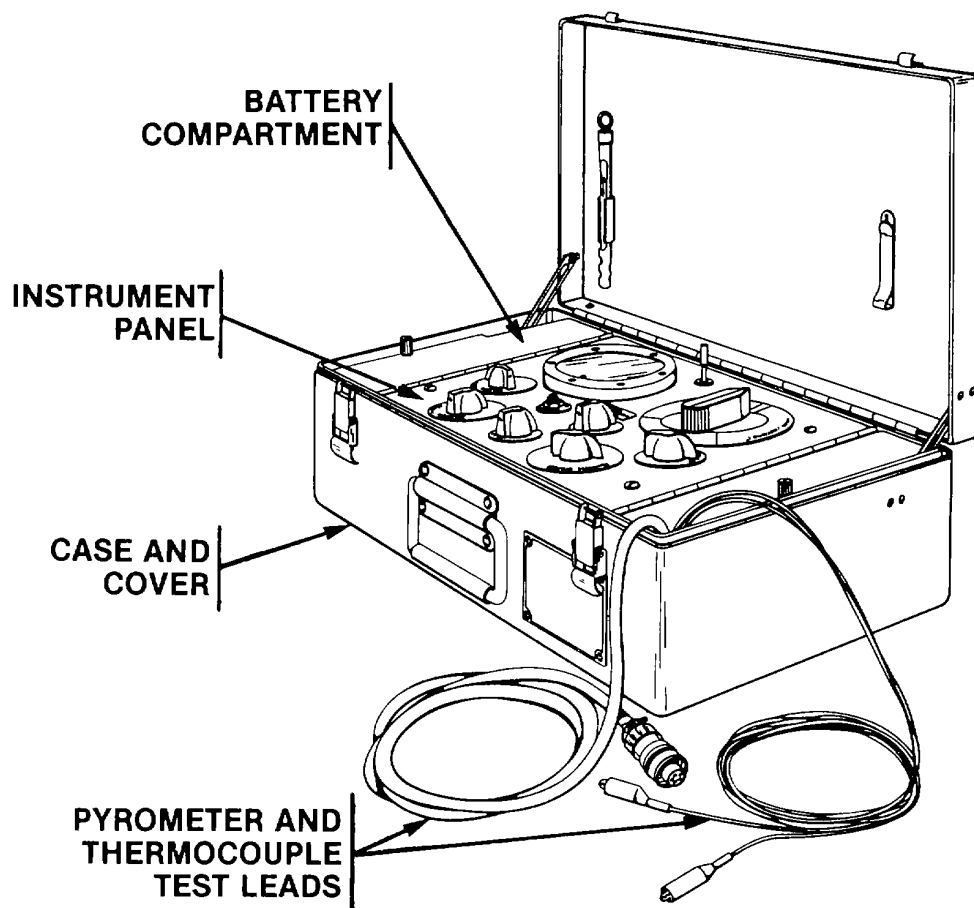

Figure 1-1. Pyrometer And Thermocouple Tester
c. *Purpose Of Equipment:* The Pyrometer and Thermocouple Tester Figure 1-1 establishes millivoltage outputs when testing thermocouple indicators, operates as a null-balance galvanometer when measuring thermocouple lead resistances, and provides precision resistance and excitation voltage outputs when testing pyrometer indicators and sensors.